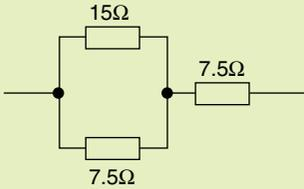

Figure 26
28. The combined resistance of the circuit in Figure 26 is